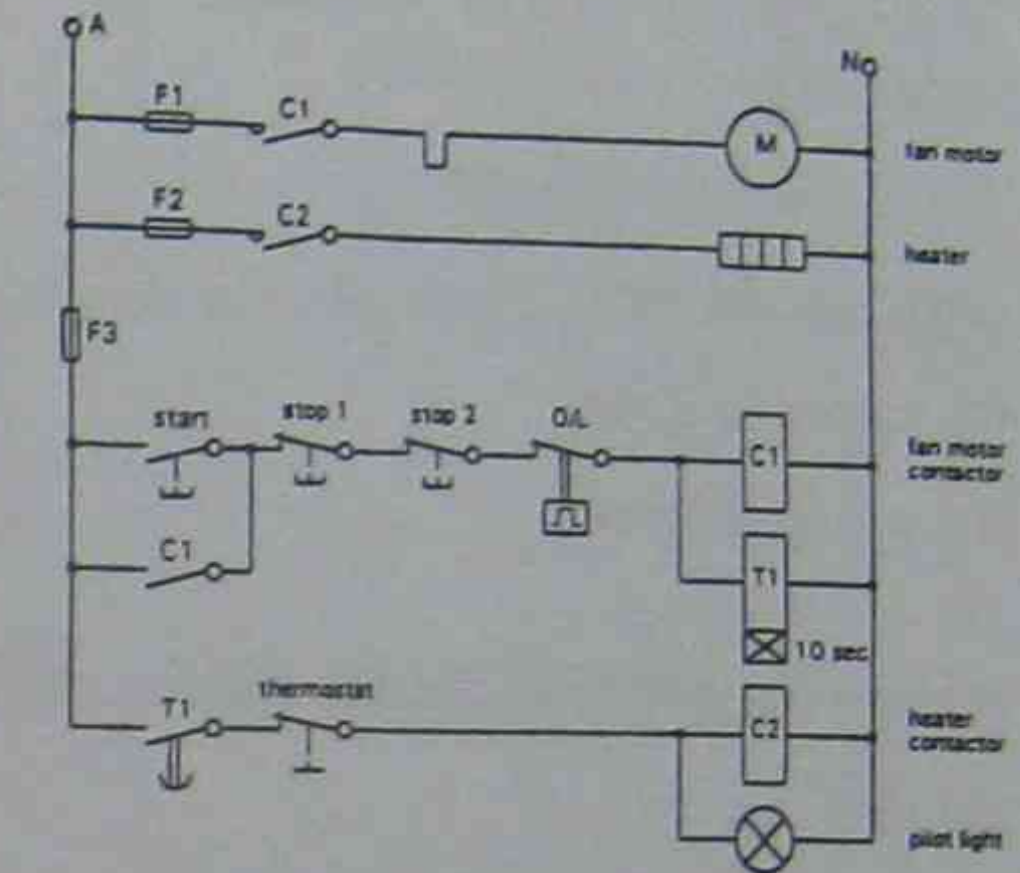

Figure 1
- The electrical diagram shown in Figure 1 is an example of: the